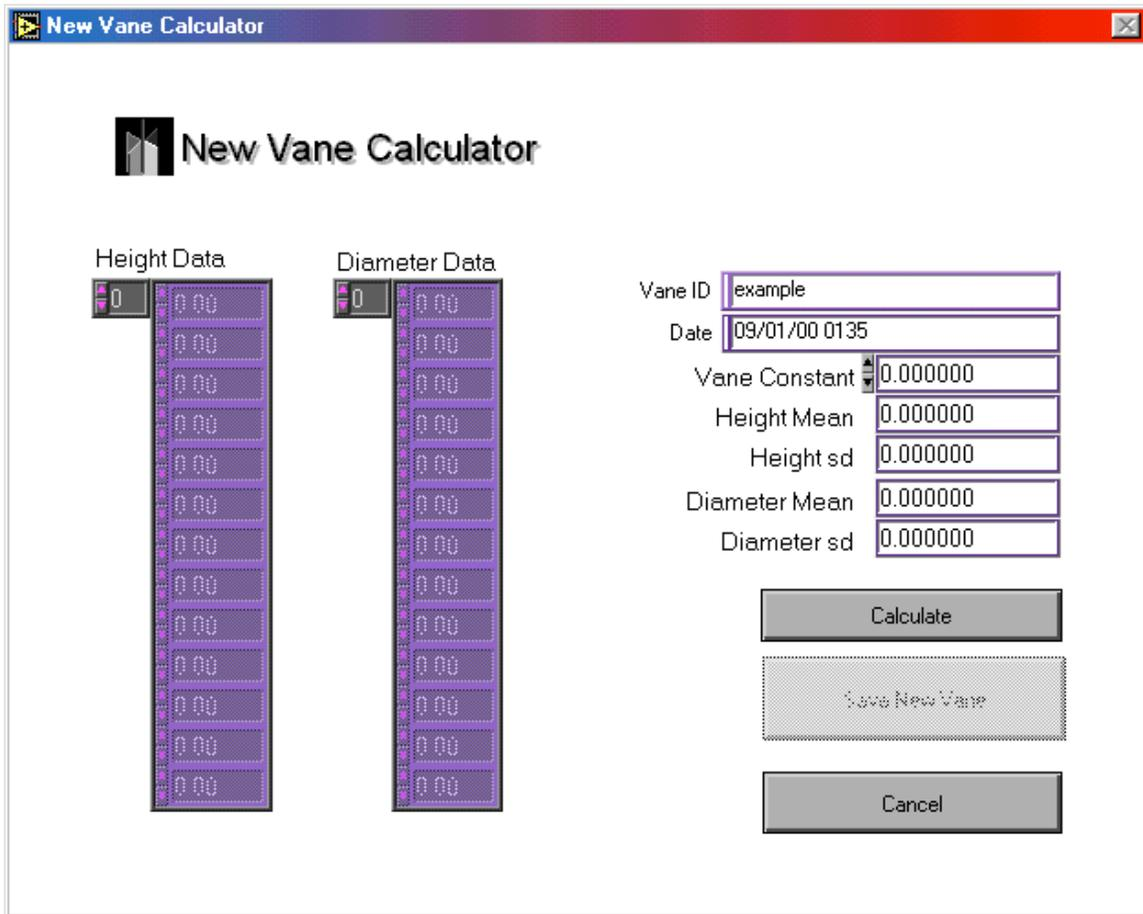

Figure 17. New Vane Calculator.
3. You will be asked to enter the name of the new vane (usually the colour) and this will bring up the New Vane Calculator screen (Figure 17)